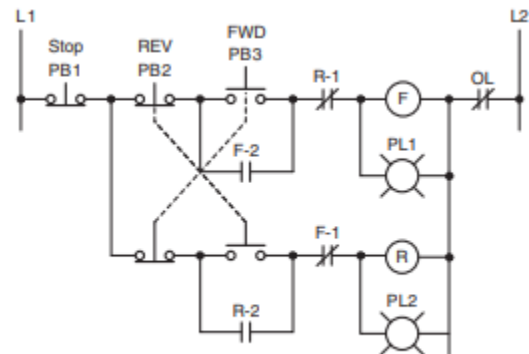
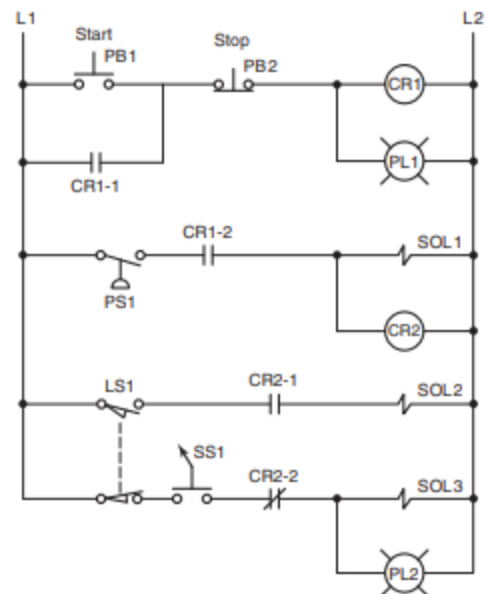

Figure 6-72 Hardwired control circuit for Problem 6.
Figure 6-71 Hardwired control circuit for Problem 5.
93. Design a PLC program and prepare a typical I/O connection diagram and ladder logic program that will correctly execute the hardwired control circuit in Figure 6-71 . Assume: PB1 pushbutton used is an NO type. PB2 pushbutton used is an NC type. PS1 pressure switch used is an NO type. LS1 limit switch used has only one set of NC contacts. 6. Design a PLC program and prepare a typical I/O connection diagram and ladder logic program that will correctly execute the hardwired control circuit in Figure 6-72 . Assume: PB1 pushbutton used is an NC type. PB2 and PB3 are each wired using one set of NO contacts. OL contact is hardwired.